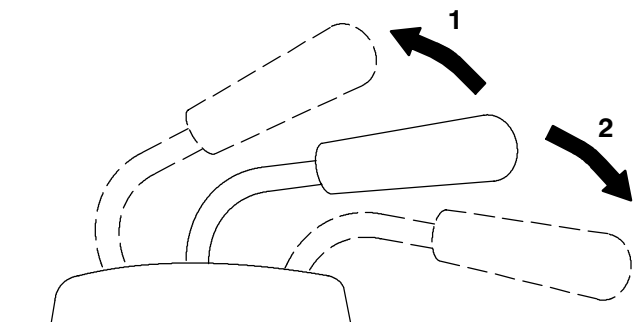

Figure 18
2. Pull the lift lever up to raise the attachment (Fig. 18). This will lift and hold the attachment in the raised position.
2. Push the lift lever down to lower the attachment (Fig. 18).